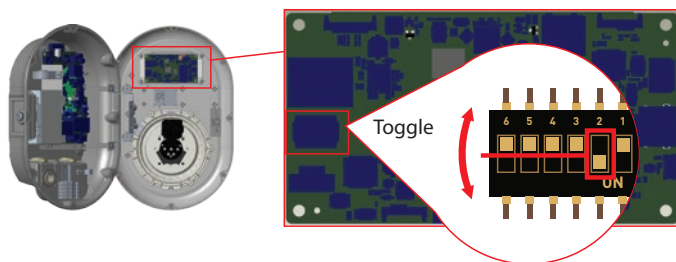

Figure-28
- Toggle the second position of DIP switch which is on the smart board of the charger shown in figure-28. After that please turn on the charger again.